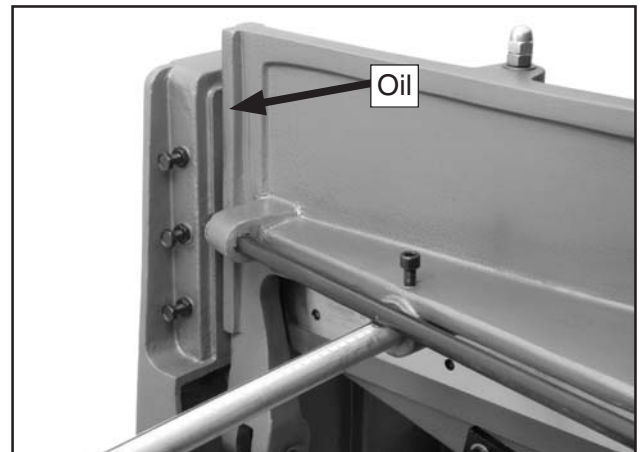

Figure 15. Gib and slide lubrication.
- Gibs and slides (**Figure 15**).